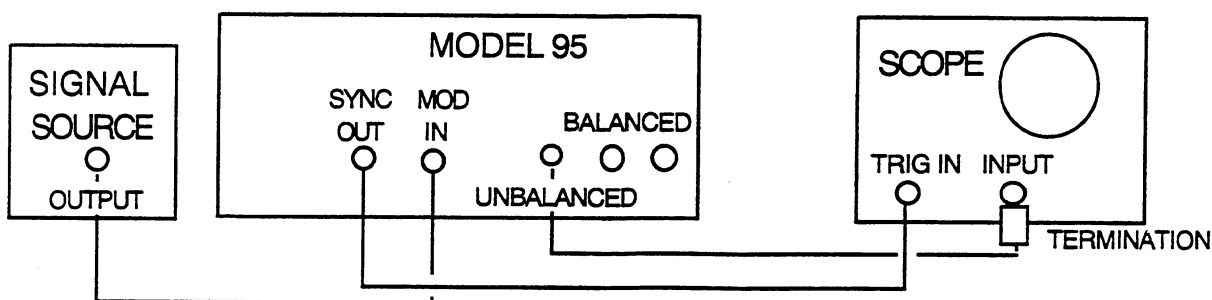

Figure 2-5. Third Setup
14. **Amplitude Modulation** Press the MODE key (22) and select the AM mode - AM indicator (23) lights. Press the TRIG/LOCK SOURCE key and select INTLOCK. Connect the signal source to the MOD IN connector (30). See Figure 2-5. Set the signal source to 100 Hz, 1Vpp sine wave; trigger the scope from the signal source.